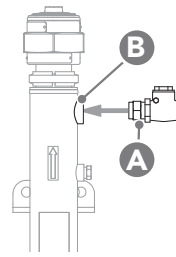

Figure 5. Modular CLV check valve and nipple assembly (A) and coolant tank outlet (B).
2. Attach check valve and nipple assembly (A) to coolant tank outlet (B). See Fig. 5.